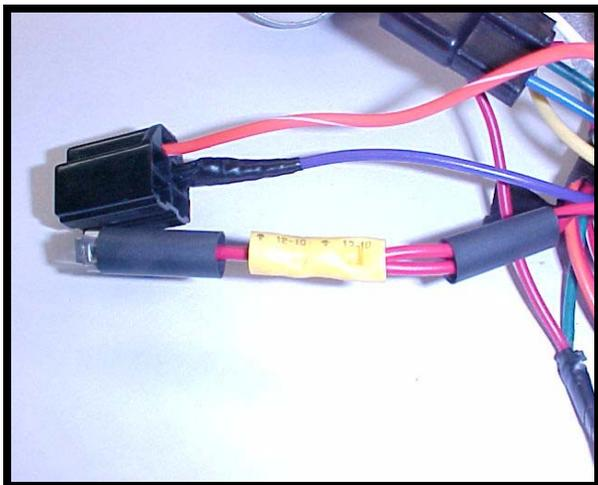

FIGURE 3
6. Cut the Red/Black wire at about 3/8" from the end of the plastic plug connector. See Figure 3. Tape up the unused portion of the Red/Black wire remaining in terminal "B" to the purple wire to help keep it insulated.
12. Connect the wires to the butt connector as shown in Figure 3. Make sure a good secure crimp is made to provide a good connection. **NOTE:** Removed the Red wire terminal from the plastic connector to install the heat shrink tubing.